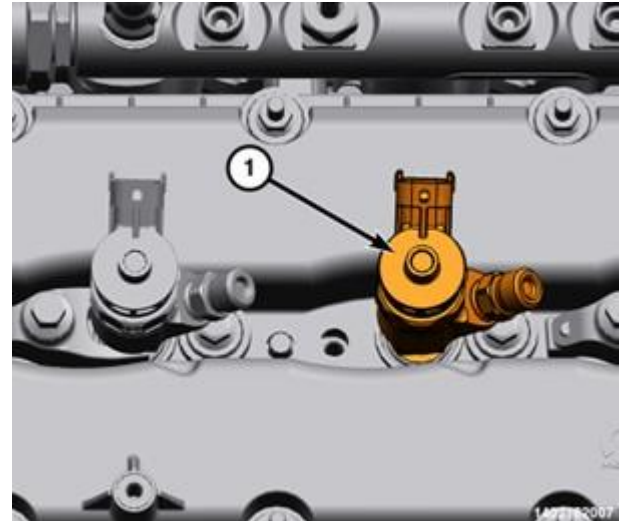

Figure 143 – Fuel Injector Bolt
88. Install the fuel injector (1) in the cylinder head (Figure 143).